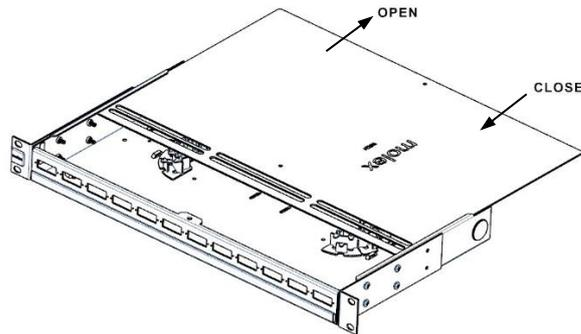

Fig.3
3.3 Open/close slide cover (Fig.3)